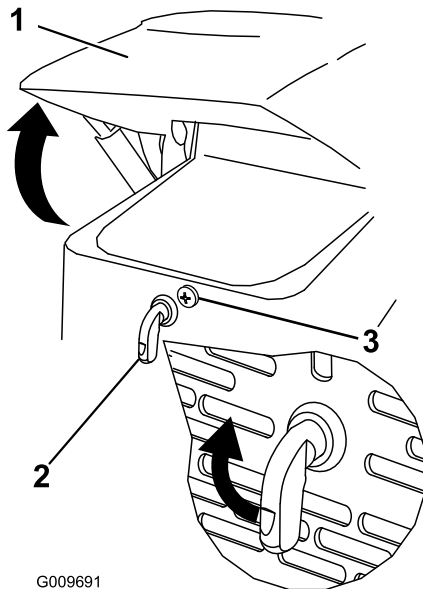

Figure 27
1. Loosen the hood locking screw (Figure 27)
2. Turn the hood latch clockwise (Figure 27).
3. Swing the hood up (Figure 27).
3. Tighten the hood locking screw to secure the latch (Figure 27).